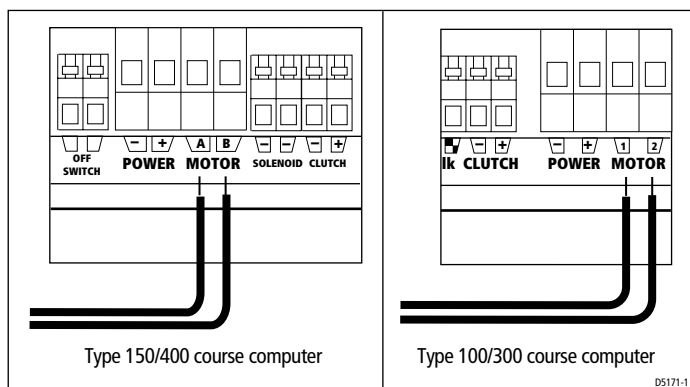

Figure 8: Course computer connections
4. Connect the cables from the pump to the **MOTOR** terminals on the course computer (see *Figure 8*): at this stage you can connect either motor cable to either terminal. You will check these connections after installing the rest of the autopilot system.